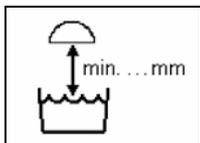

Figure 1 - Minimum distance from water level symbol
- (1) 【原文】 11.5.1\_ Information shall be provided and/or the following symbol (see Figure 1) concerning the minimum distance to the maximum water level of the aquarium shall be marked on the luminaire if it is possible (by the design of the aquarium) that water can reach the luminaire. The minimum distance shall be at least 15 mm.